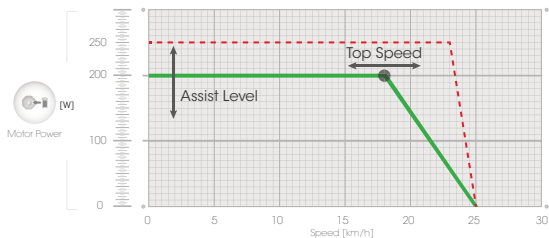
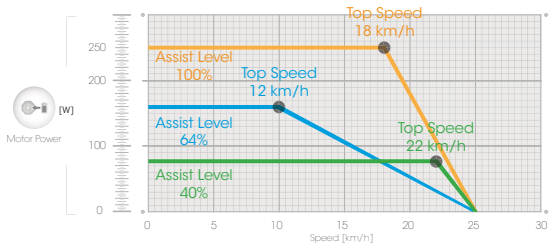

Figure 8: motor settings and power limitations
Figure 9: example of different motor settings
By changing the ASSIST LEVEL parameter (0% to 100%), you set the maximum level of assistance of the motor. 100% means 250W peak. Please refer to Figure 8 and Figure 9 for further information.
**▲ Note: the assistance also depends on your pedaling power. Figure 8 and Figure 9 is intended to explain the motor settings and NOT to give you detailed information about the effective motor power.**